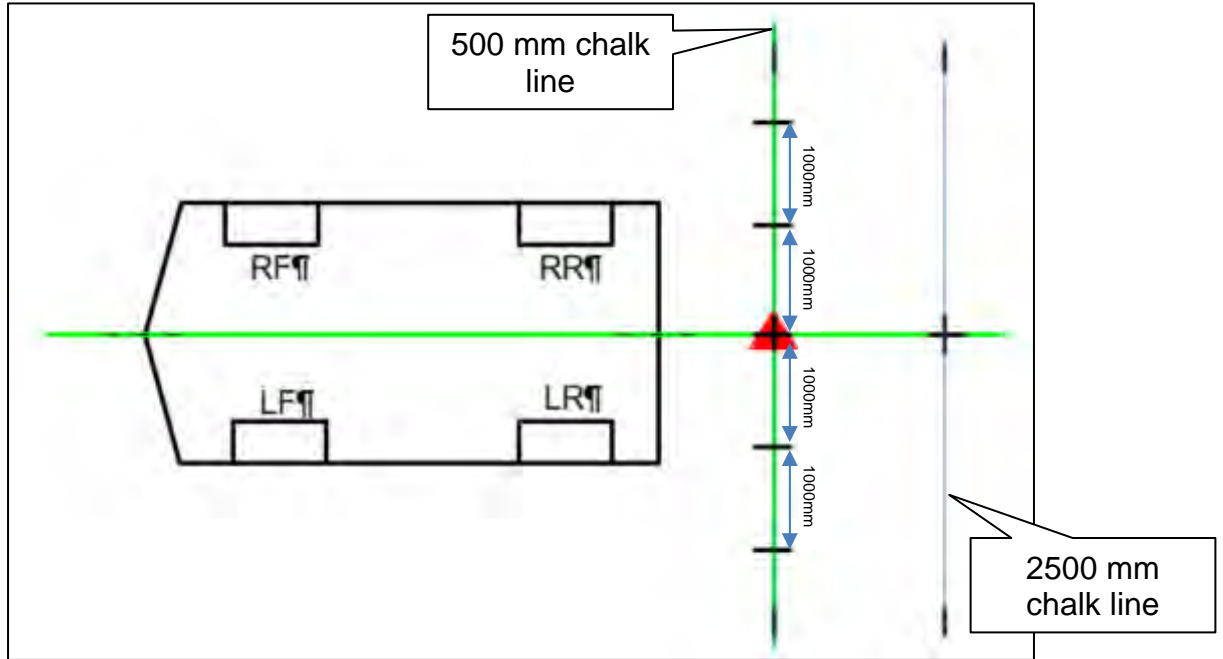
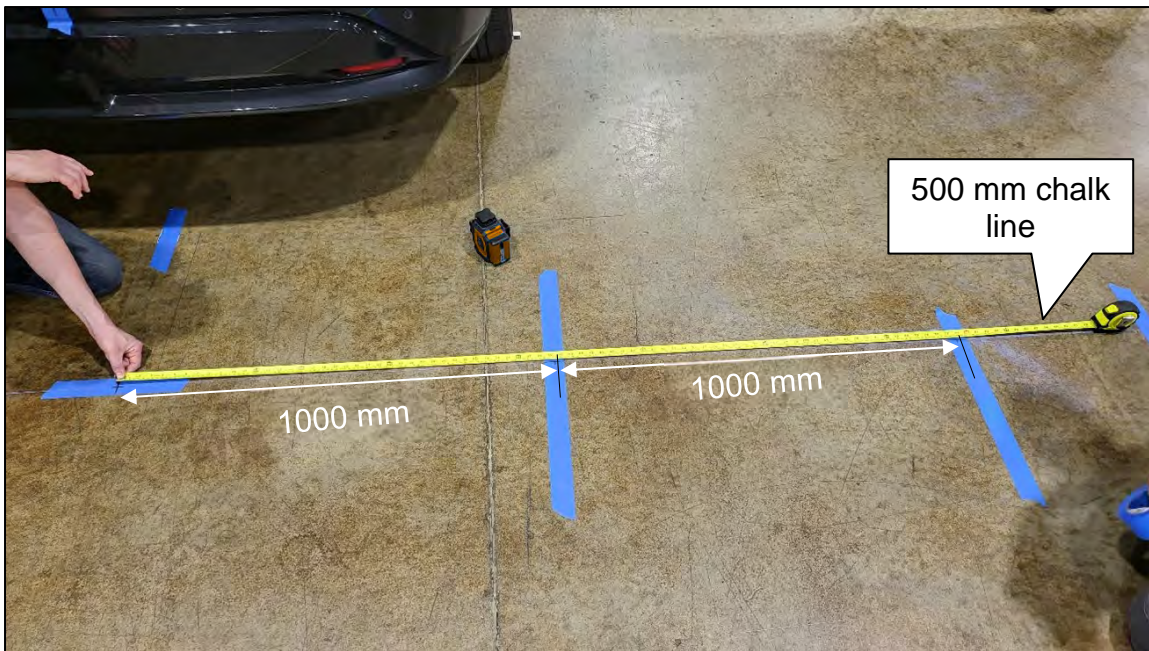

Figure 84
Figure 85
56. Measure and mark 1000 mm increments, as shown in Figure 84 and Figure 85.